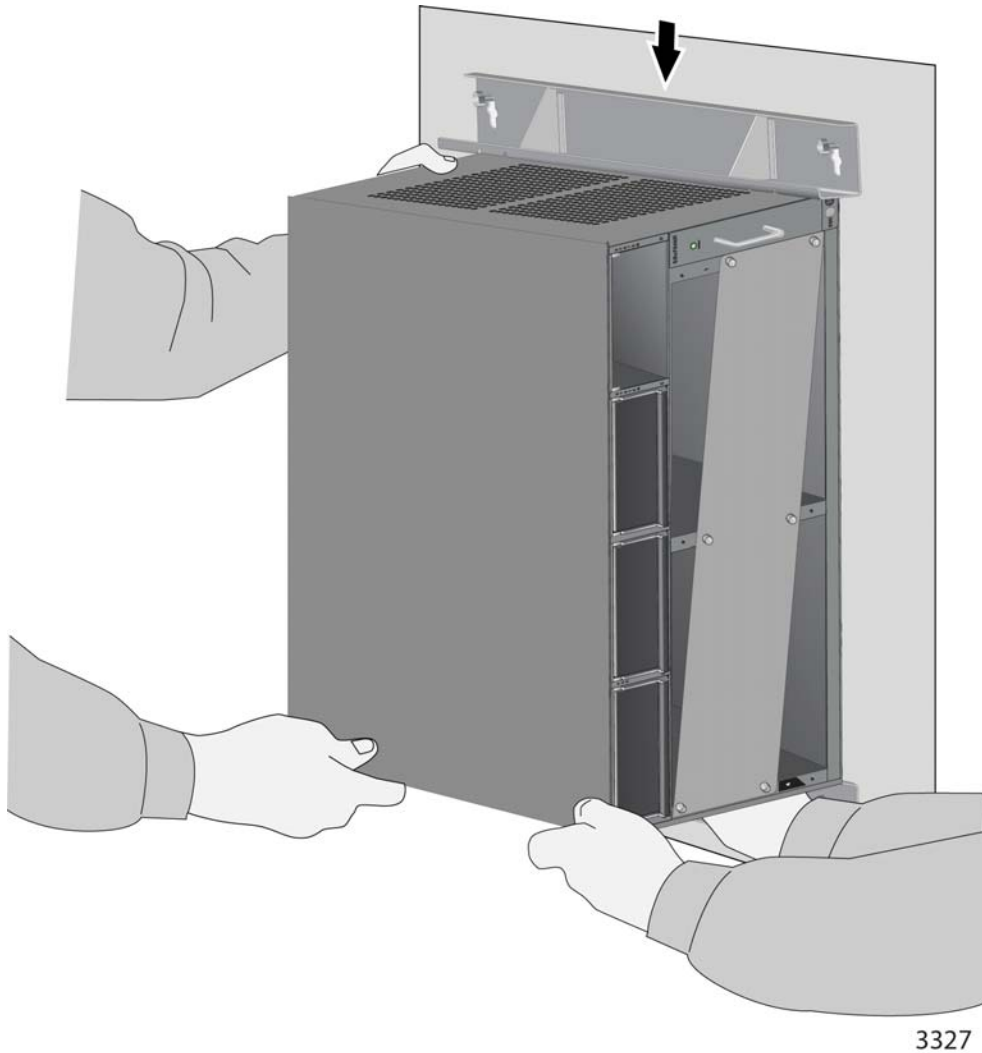

Figure 18. Lowering the Chassis onto the Screws
2. Gently lower the chassis until it is resting on the screws. Refer to Figure 18.